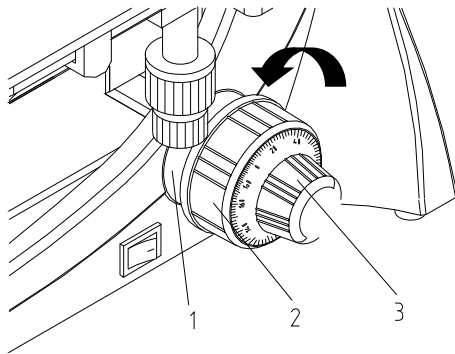

Fig. 27
3.3.8 Adjusting the Tension Adjustment Collar (Fig.27)